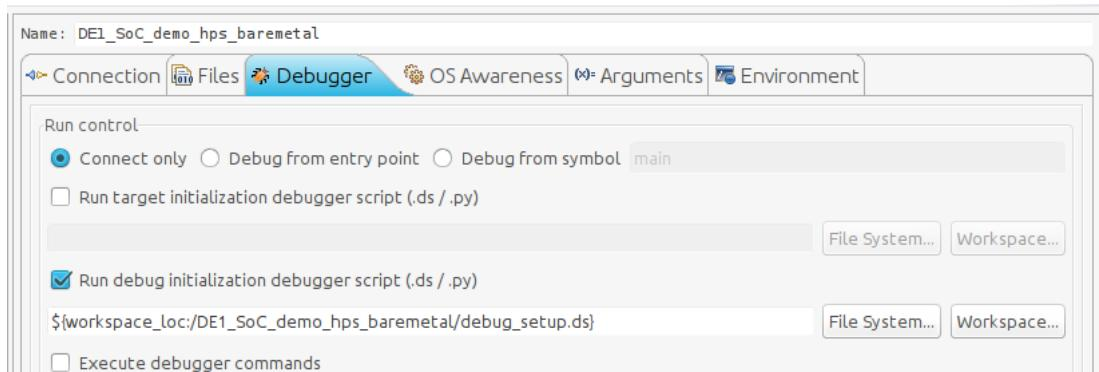

Figure 8-31. Debug Configuration "Debugger" Tab
- Enable the "Run **DEBUG** initialization debugger script (.ds / .py)" checkbox. Set the debug script to the one we defined for the project in 8.4.2.1.3.2. You should have something similar to Figure 8-31.